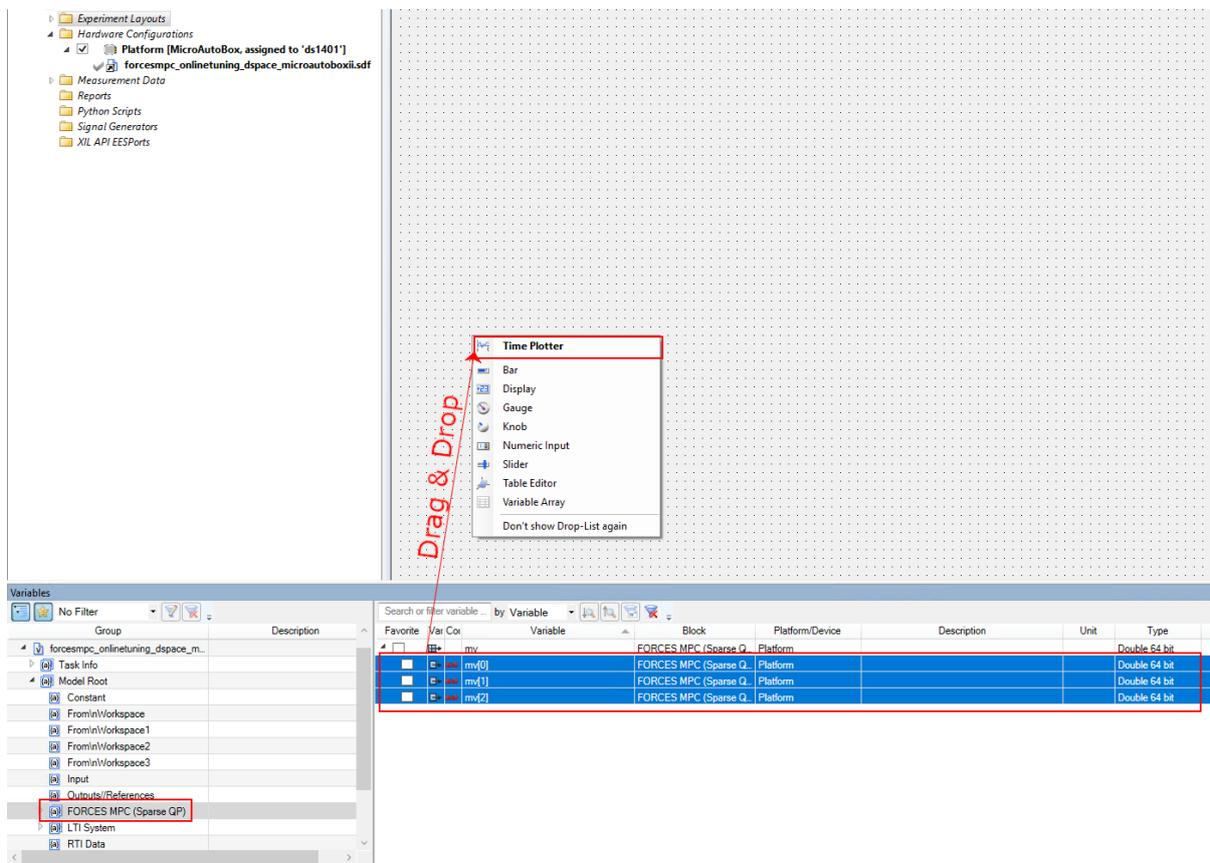

Figure 6.16: Add the variables as plots
- 12) Select `FORCES MPC (Sparse QP)` and Drag & Drop all the output variables together to the Layout. In the opened menu select `Time Plotter` (see Figure 6.16).